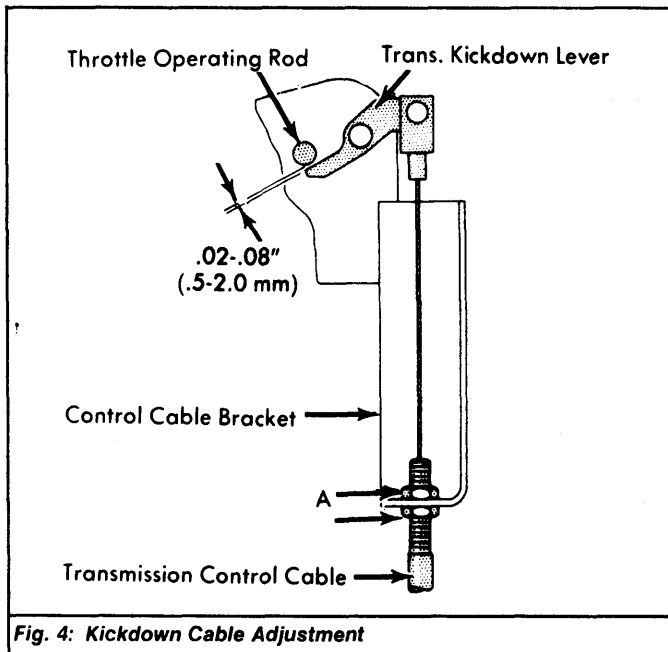

Fig. 4: Kickdown Cable Adjustment
3) Loosen nut "A" and adjust nut "B" until there is a clearance of .02-.08" (0.5-2.0 mm) between carburetor linkage kickdown lever and throttle operating shaft. See Fig. 4. Tighten nuts and operate linkage to ensure that full transmission kickdown can be obtained.